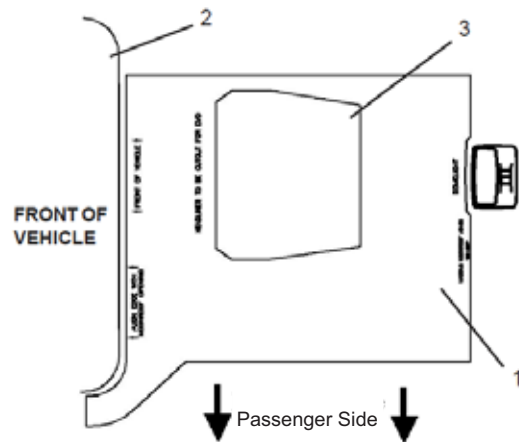

FIGURE 1
- 1.) ALIGN THE TEMPLATE (1) BETWEEN THE MOONROOF OPENING (2) AND THE DOME LIGHT AND TAPE IN PLACE. (SEE FIGURE 1)
- 2.) USING A MARKER, CAREFULLY TRACE THE DVD CUTOUT AREA (3) ON THE HEADLINER. REMOVE THE TAPE AND TEMPLATE (1). (SEE FIGURE 1)